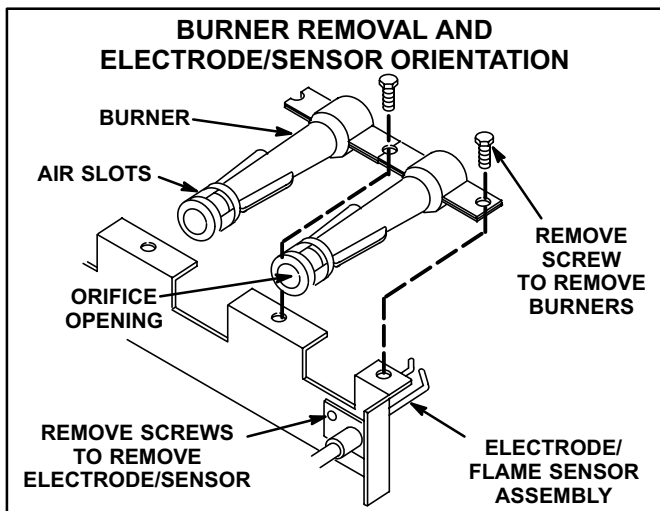

FIGURE 41
Figure 41 shows how to remove burner assembly.
- Remove screws as shown in figure 41.